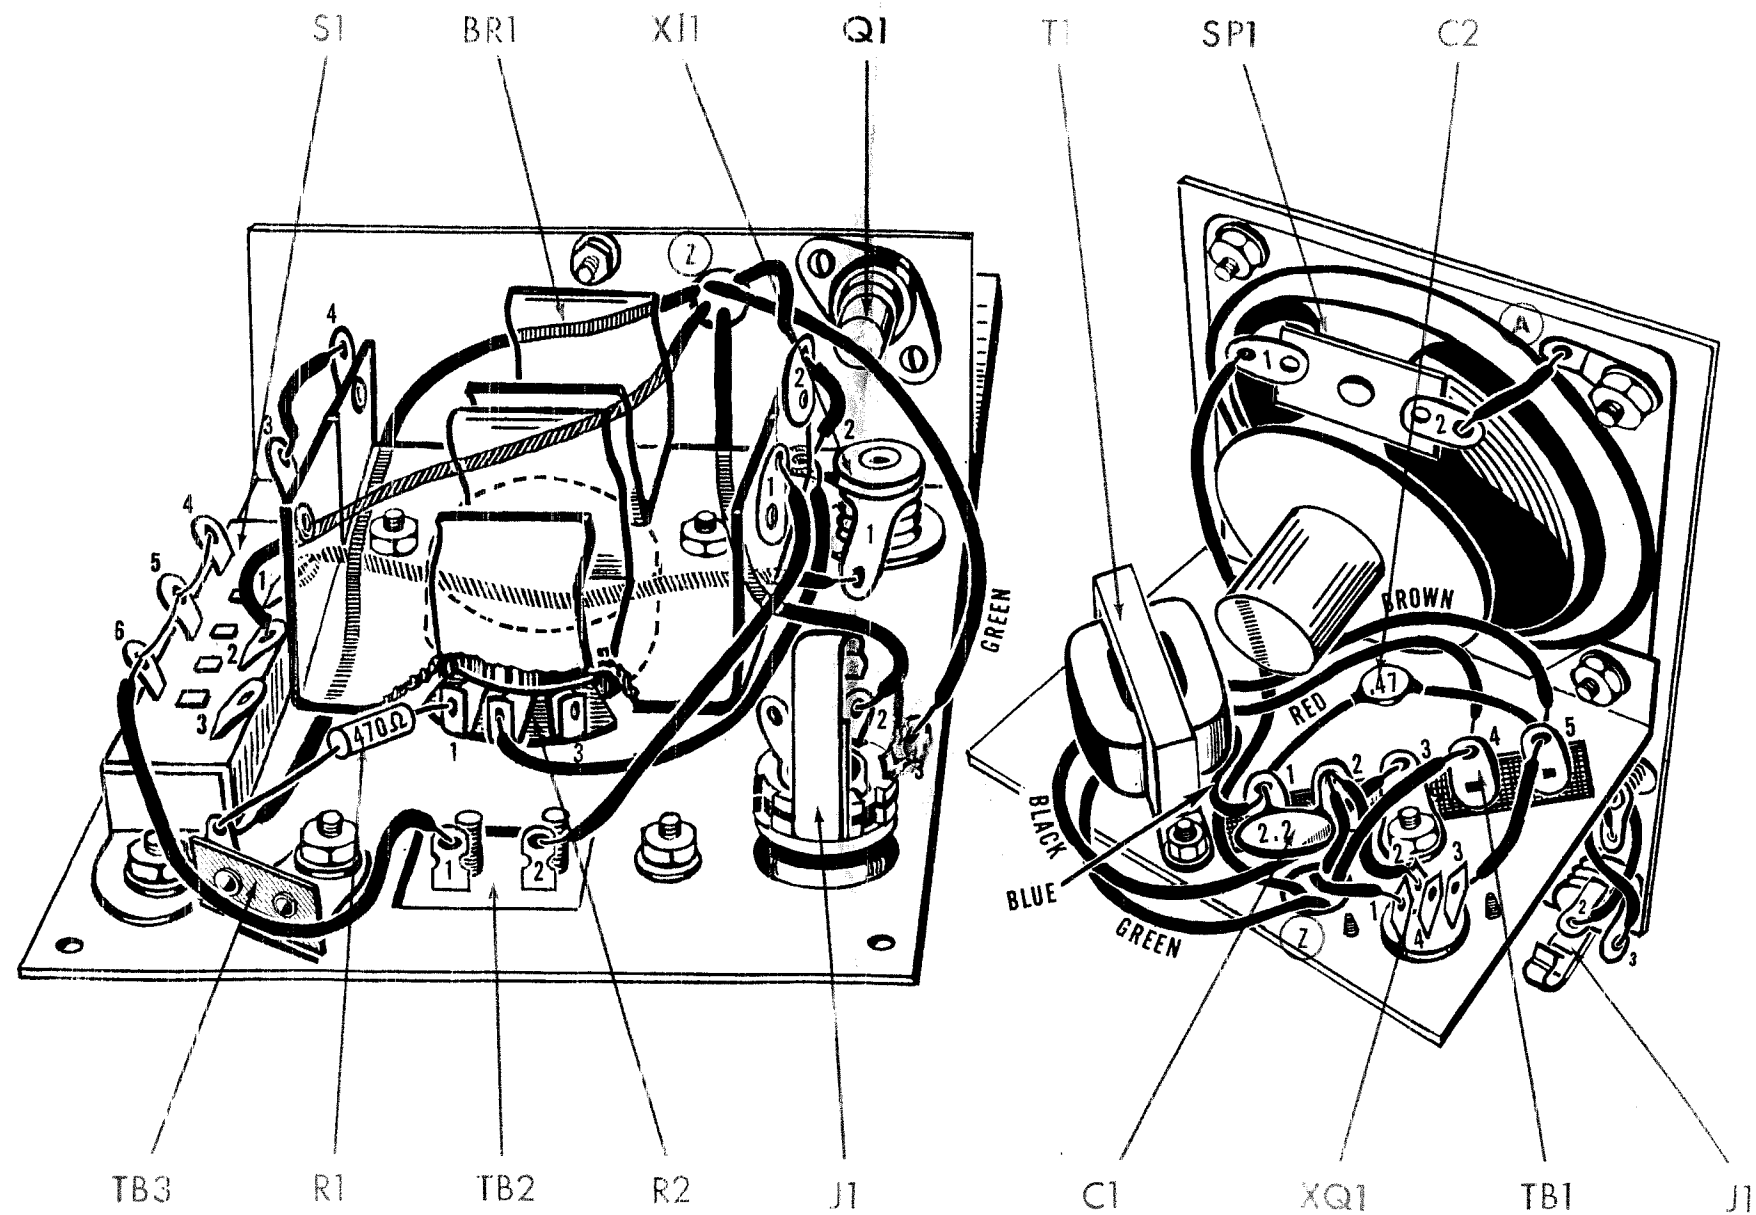

Fig. 2
- () 1. Fig. 2. Connect the blue lead from transformer T1 to TB1-1 (C), the red lead to TB1-4 (C), the brown lead to TB1-5 (C) and the black lead to TB1-3 (S1). Push the green lead through hole Z in chassis and solder to J1-3 (S1).
- () 2. Fig. 2. Cut both leads on the 2.2mfd 3 volt disc capacitor, C1, to 1/2". Connect one end to TB1-1 (C) and the other end to TB1-2 (C).
- () 3. Fig. 2. Cut a piece of wire to 6" and strip back 1/4" on each end. Connect one end to TB1-2 (C). Push the other end through hole Z and connect to TB3 (C).
- () 4. Fig. 2. Cut a piece of wire to 1 1/2" and strip back 1/4" on each end. Connect one end to TB1-2 (S3) and the other end to XQ1-2 (S1).
- () 5. Fig. 2. Cut a piece of wire to 3" and strip back 1/4" on each end. Connect one end to TB1-4 (S2). Push the other end through hole Z but do not connect yet.
- () 6. Fig. 2. Cut a piece of wire to 1 1/2" and strip back 1/4" on each end. Connect one end to TB1-5 (C) and the other end to XQ1-3 (S1).
- () 7. Fig. 2. Cut both leads on the .47mfd 3 volt capacitor, C2, to 1 1/4". Cover both leads with a 1" piece of insulation (spaghetti). Connect one end to TB1-1 (S3) and the other end to TB1-5 (S3).
- () 8. Fig. 2. Cut a piece of wire to 5 1/2" and strip back 1/4" on each end. Connect one end to XQ1-1 (S1) and pass the other end thru hole Z to S1-2 (S1). Dress wire close to panel.
- () 9. Fig. 2. Cut both leads from the 470Ω resistor R1 (yellow, violet, brown, silver), to 3/4". Connect one end to R2-1 (S1) and the other end to TB3 (S2).
- () 10. Fig. 2. Cut a piece of wire to 3" and strip back 1/4" on each end. Connect one end to X11-2 (C) and the other end to R2-2 (S1).
- () 11. Fig. 2. Cut a piece of wire to 2" and strip back 1/4" on each end. Connect one end to X11-2 (S2) but do not connect the other end yet.
- () 12. Fig. 2. Cut a piece of wire to 4" and strip back 1/4" on both ends. Connect one end to X11-1 (S1) and the other end to S1-1 (S1).
- () 13. Fig. 2. Connect a 1" piece of wire from speaker SP1-2 (S1) to
- () 14. Fig. 2. Cut a piece of wire to 8" and strip back 1/4" on each end. Connect one end to J1-2 (S1). Push the other end through hole Z and connect to SP1-1 (S1).
- () 15. Fig. 2. Cut a piece of wire to 3 1/2". Strip back one end to 1" and the other to 1/4". Connect the stripped 1" end through S1-4 (S1), S1-5 (S1), S1-6 (S1). Connect the other end to TB2-1 (S1).
- () 16. Fig. 2. Mount the battery bracket, BR1 as shown in Fig. 1. Use two standoff, two 4-40 x 1" round head screws, two #4 lockwashers and two #4-40 hex nuts.
- () 17. Fig. 2. Cut a piece of wire to 1 1/2" and strip back 1/4" on each end. Connect one end to BR1-3 (S1) and the other end to BR1-4 (S1).
- () 18. Fig. 2. One end of a wire was previously connected to X11-2. Connect the loose end to BR1-2 (C).
- () 19. Fig. 2. One end of a wire was previously connected to TB1-4 and thru hole Z. Connect the loose end to BR1-2 (S2).
- () 20. Fig. 2. Cut a piece of wire to 3". Strip back 1/4" on both ends. Connect one end to TB2-2 (S1) and the other end to BR1-1 (S1).